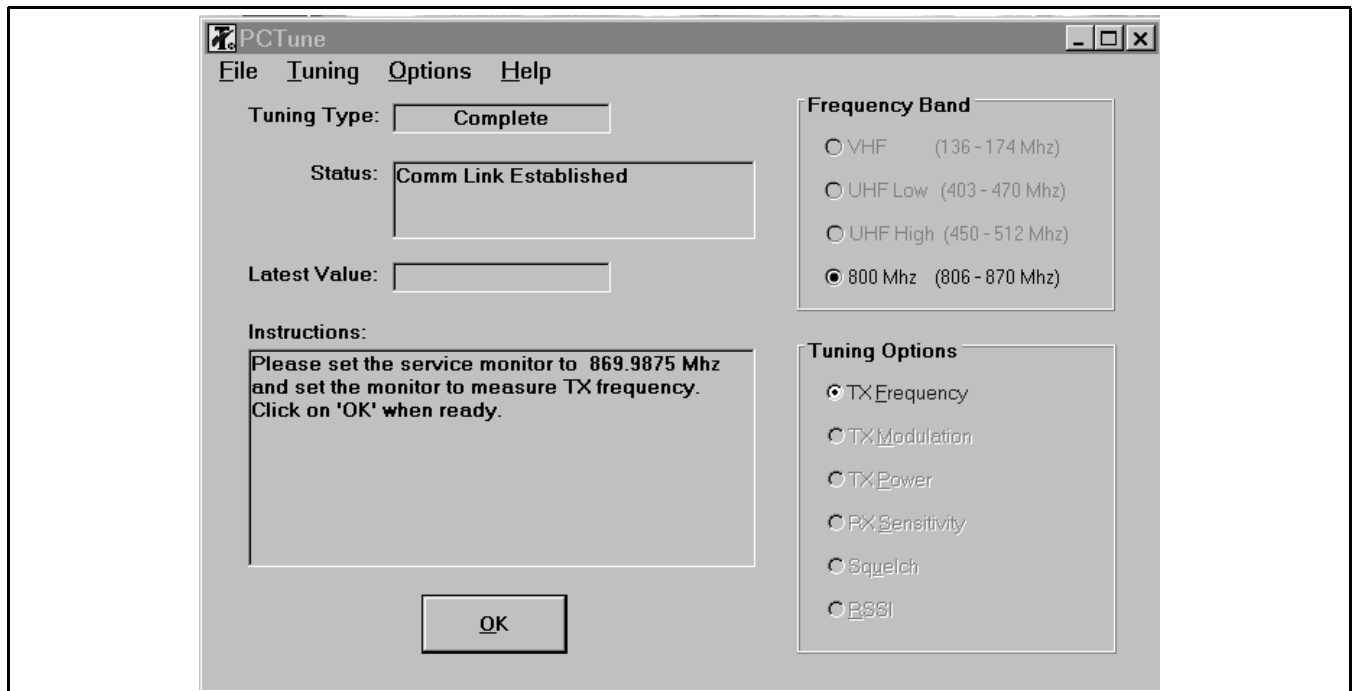

Figure 5-2 Tuning Software Screen (800 MHz Models)
- Start the program as described in the preceding section. Select Options > Set Com Port and make sure that the correct serial port is selected (see screen in Figure 5-2).